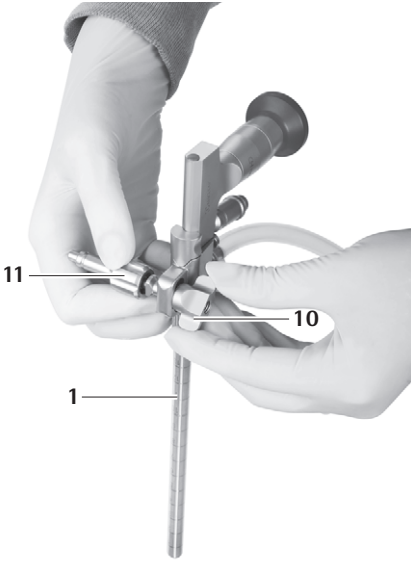

Fig. 19
- ▶ Screw on the wing nut **10** until the holding arm adapter **11** is fixed in place, see Fig. 19. MINOP InVent-Trocar **1** is now ready to be fitted to the holding arm.